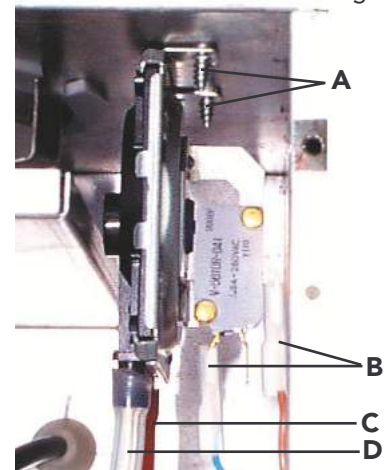

Fig. 27
**7.06 Air pressure switch (fig. 27)**